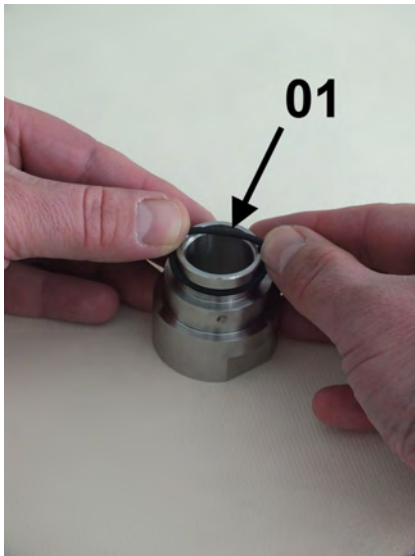
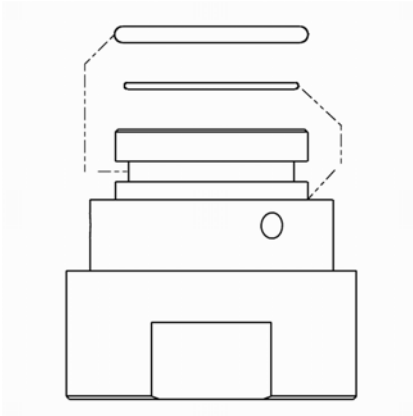

Fig. 41: O-ring (seal)
Fig. 43: Position of O-rings
1. ➤ Carefully install the O-ring (seal) onto the process connection (Fig. 41/1), so that it rests in the upper O-ring groove of the process connection Fig. 43/1). When doing so, be careful not to overstretch the O-ring.
2. ➤ Carefully seat the O-ring (Glass buffer) onto the process connection (Fig. 42/1), so that it is properly seated on the lower portion of the process connection (Fig. 43/2). When doing so, be careful not to overstretch the O-ring.